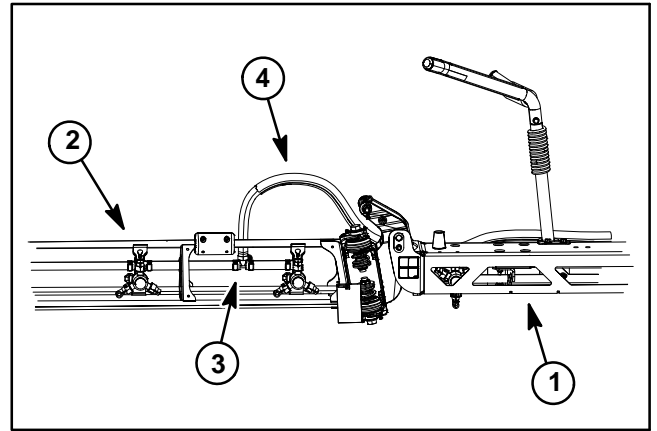

Figure 36
2. Loosen hose clamp and remove supply hose from tee fitting on spray boom (Fig. 36).
4. Loosen two (2) cap screws (item 10) and lock nuts (item 11) to allow breakaway springs (item 16) to fully extend.
5. Disassemble boom hinge as required. If pivot bracket (item 4) is to be removed from machine, disconnect boom lift cylinder (not shown) from pivot bracket (see Boom Lift Cylinders in Chapter 4 – Hydraulic System in this manual).
6. Clean all removed components. If pivot bracket was removed, inspect bushings (item 6) and pivot pin (item 12) for damage or wear.
6. Connect supply hose to tee fitting on spray boom and secure with hose clamp (Fig. 36).